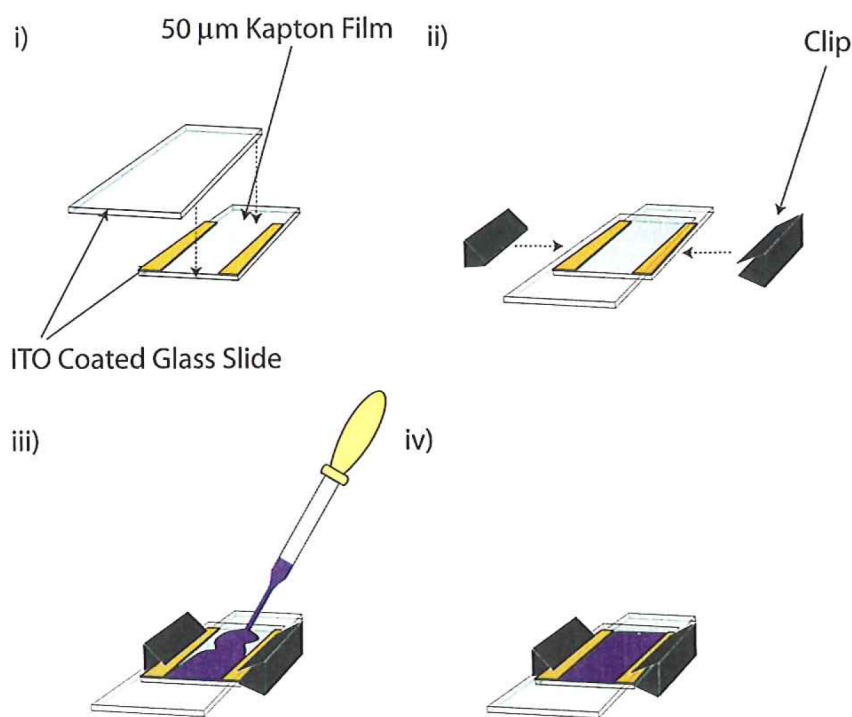

Figure 2 Filling Stark Cell
Preparing Stark Sample Cell (Fig 2).
- b) Fig 2-ii The slides are held in place by clips.
- c) Fig 2-iii The sample is introduced by pipette.
- d) Fig 2-iv The finished Stark cell.
a) You can practice filling the cell as shown in Fig. 2. The tip of the pipette is placed at the edge of the overlapping ITO glasses and the cavity is filled by capillary action. There should be no air bubbles present once the cell is filled